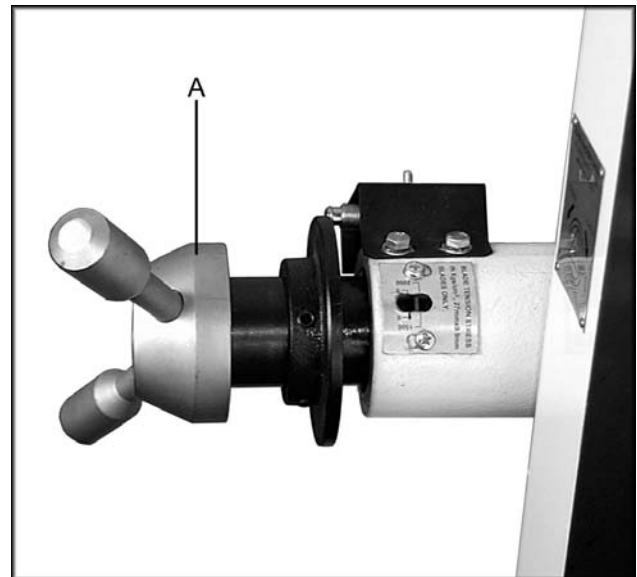

Fig. 3
2. Slide the tensioning handle (A, Fig.3) onto the shaft and tighten the hex socket set screw.